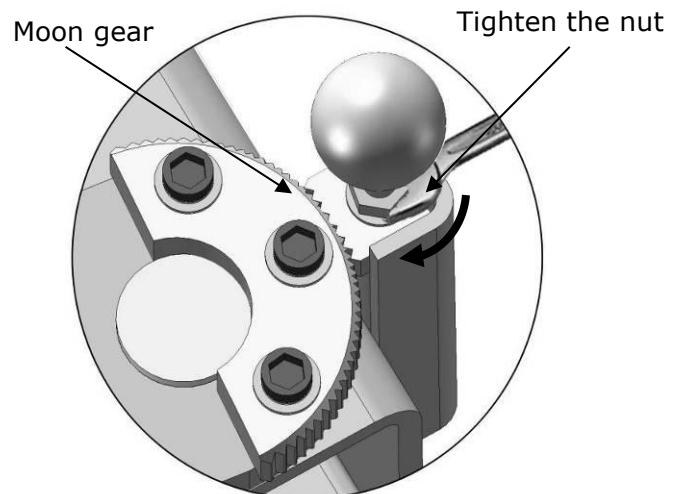

Fig. 25
4. Adjust moon gear and arm lock to make it to be meshed, then tighten the nut of arm lock (**See Fig. 25**).